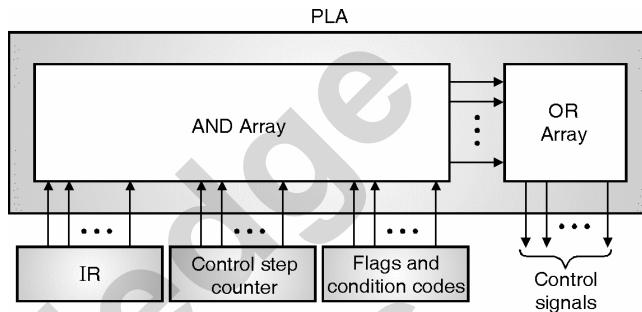

Fig. 9.7.6 : PLA Technique
- Fig. 9.7.6 shows the implementation of the PLA method of implementation of control unit.